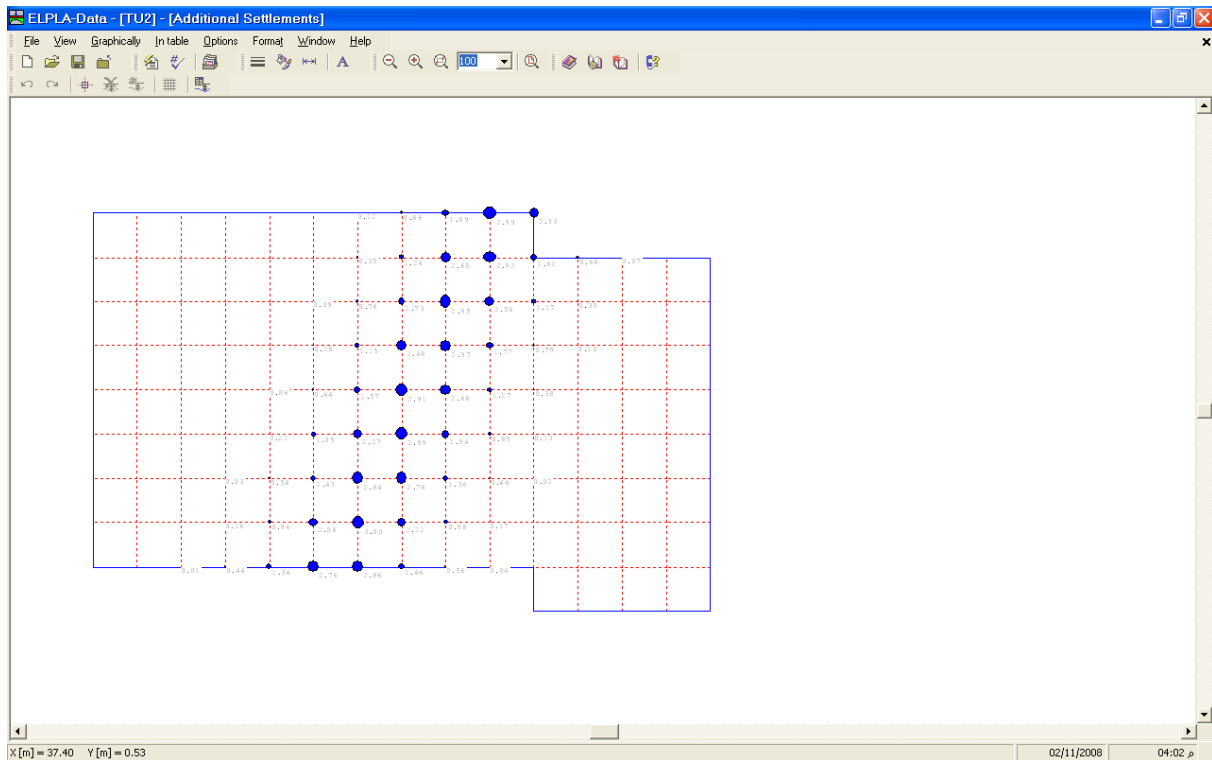

Figure 13-42 Additional settlements on the screen
After you have completed the definition of the additional settlements, the screen should look like the following Figure 13-42
- Choose "Save additional settlements" command from "File" menu in Figure 13-42 to save the additional settlements
- Choose "Close additional settlements" command from "File" menu in Figure 13-42 to close the "Additional settlements" embedded program and return to *ELPLA-Data*